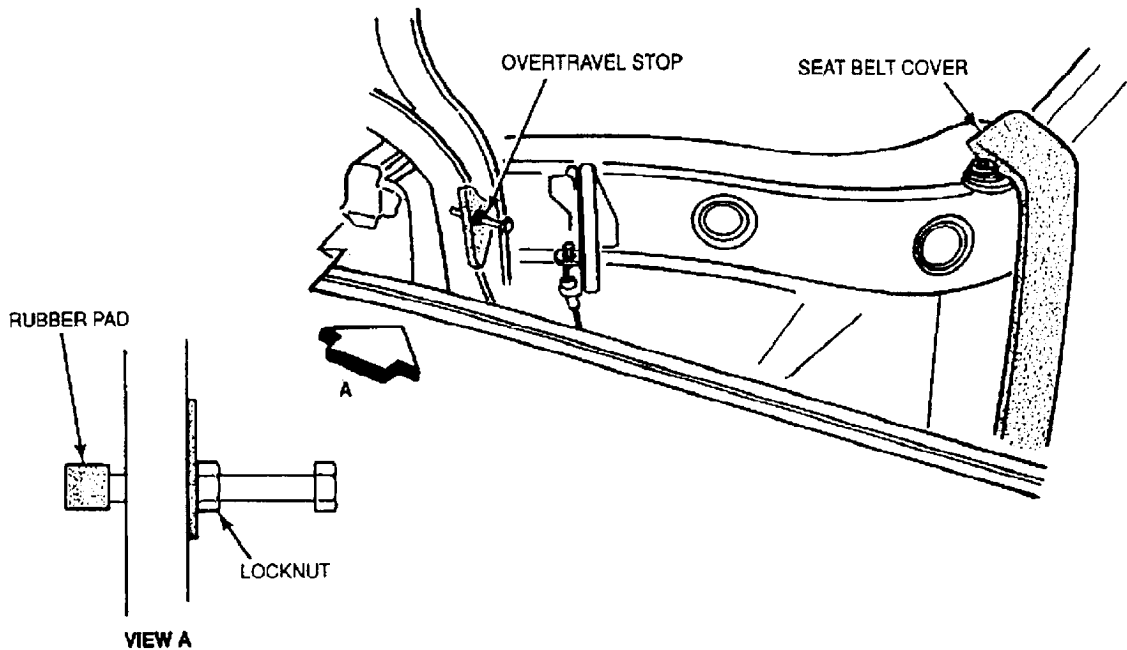

Fig. 5: Overtravel Stop
- a. Loosen the stop screw locknut, Figure 5.
- c. Tighten the stop screw until the rubber pad contacts the "B" pillar, then tighten it one (1) full turn to compress the rubber stop.